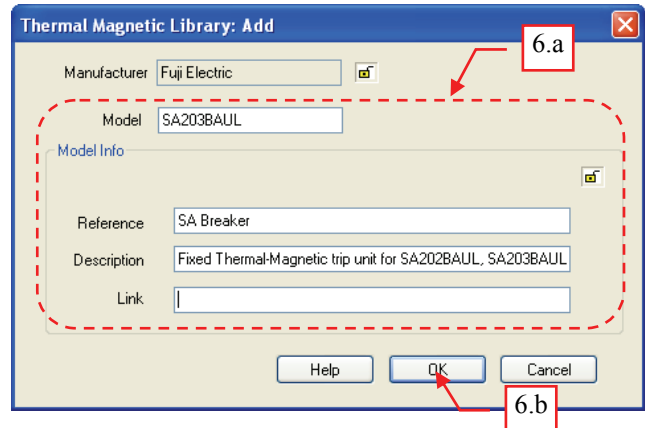

Fig. 17
6. On the “Thermal Magnetic Library: Add” dialog box, do the following (see Fig. 17):